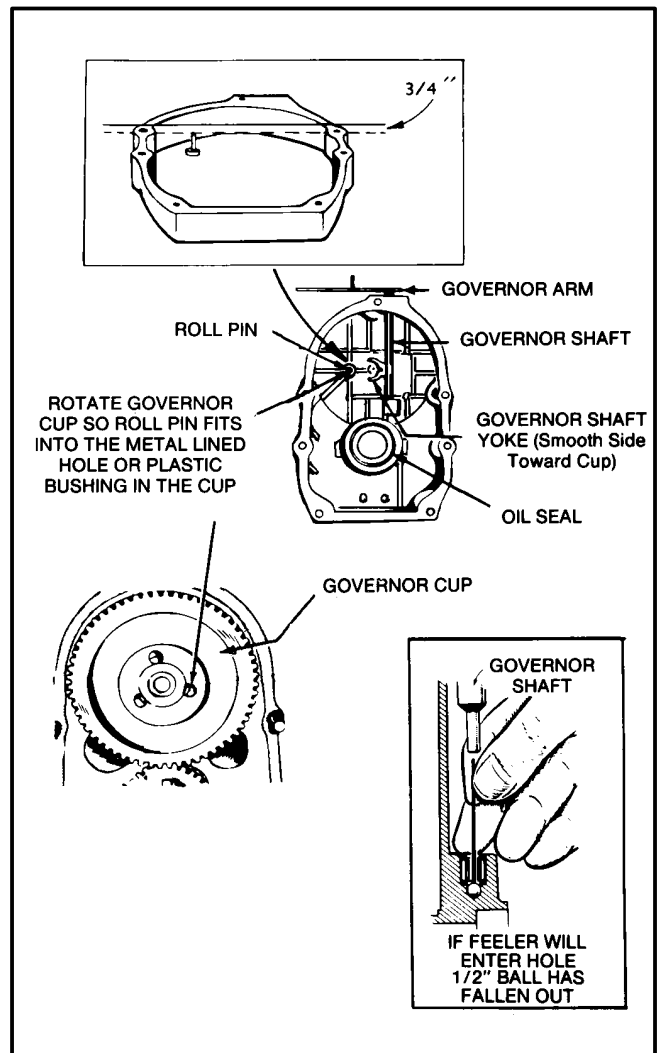

FIGURE 10-10. GEAR COVER ASSEMBLY
4. Turn the governor arm and shaft clockwise as far as possible and hold in this position until the gear cover is installed flush against the crankcase. Be careful not to damage the gear cover oil seal (see Figure 10-10).